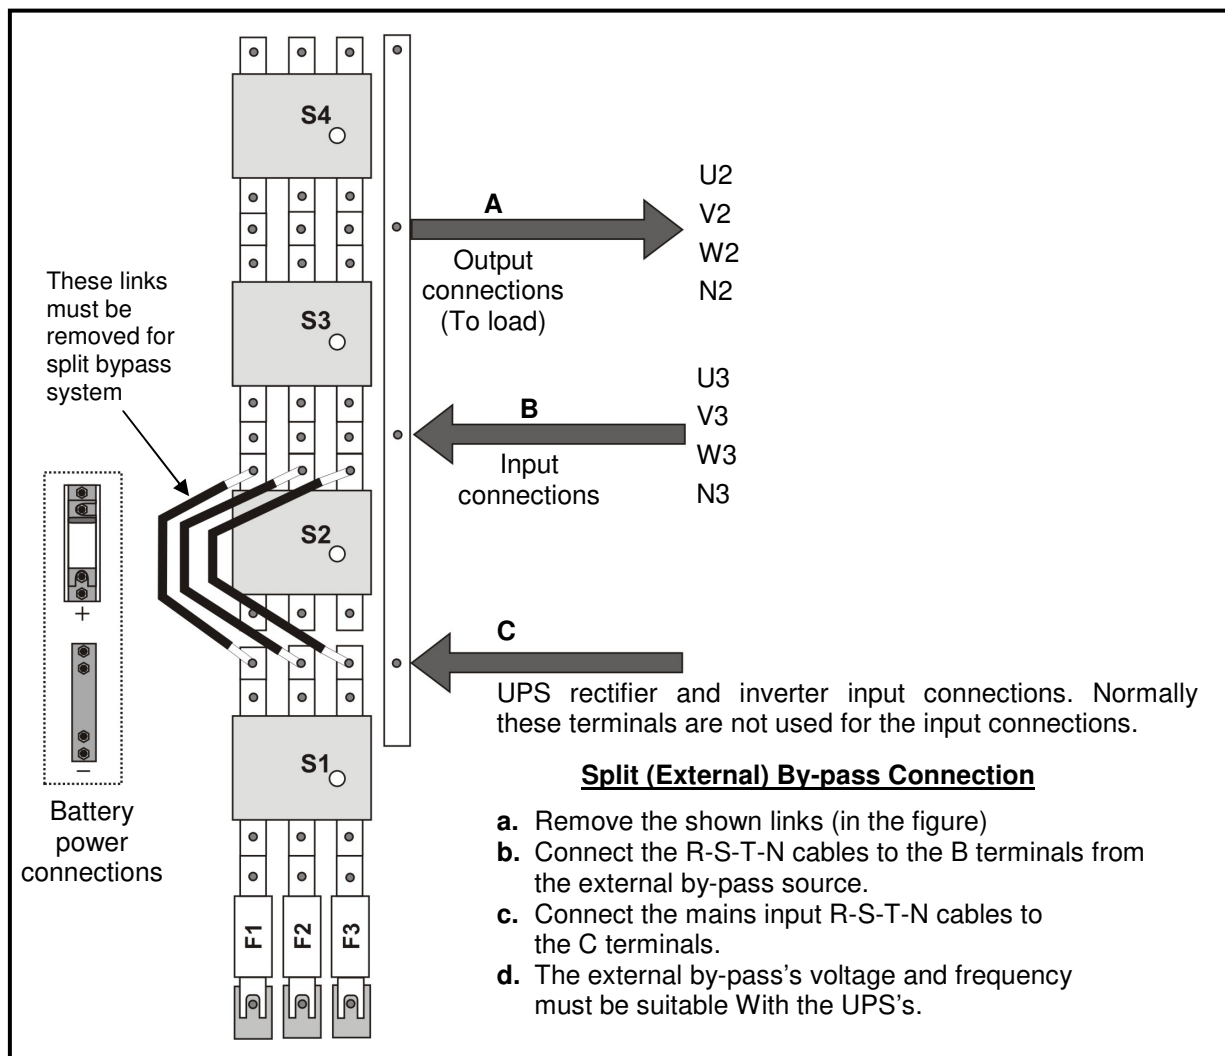

Figure 5-2 100-120-150-160-200 kVA UPS Power Connections
- 2) Connect the AC input supply cables coming from the input mains distribution panel to the B terminals as in Fig. 5-2-a,b.